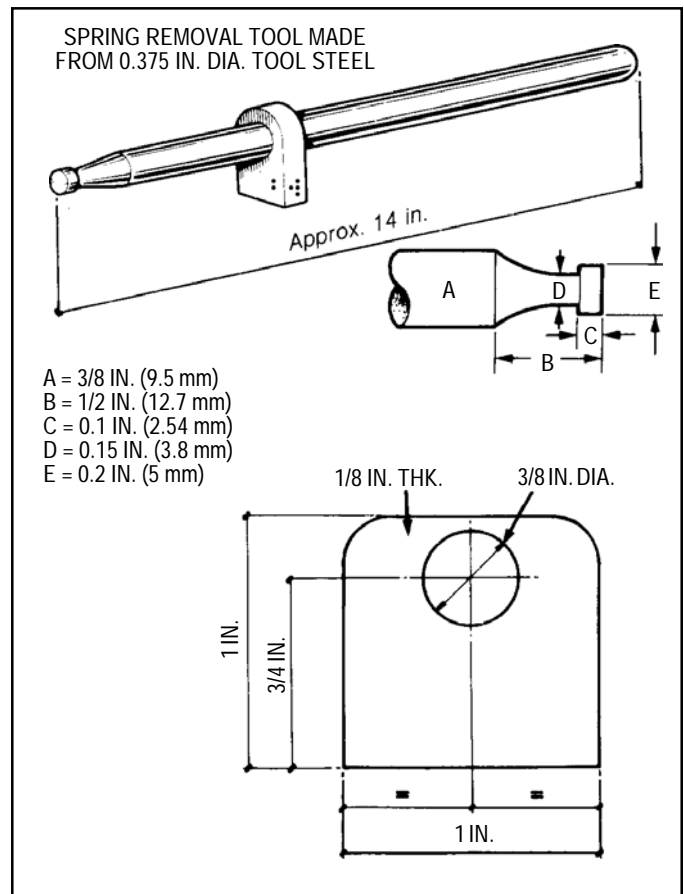

FIGURE 13
5. Shape a length of drill rod, or equivalent tool steel, into a tool as shown in *Figure 13*.